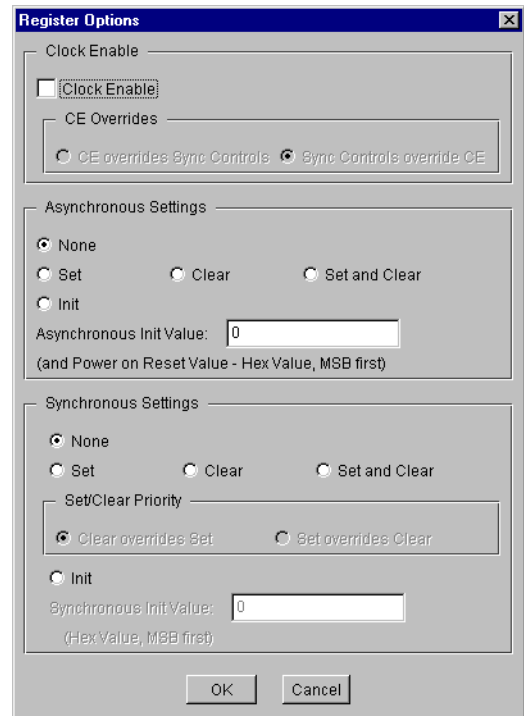

Figure 2: Binary Decoder Register Options Parameterization Screen
- Register Options:** This button is only enabled when a registered output has been requested via the **Output Options**. Clicking on this button brings up the Register Options parameterization screen (see Figure 2).
The Register Options parameterization screen for this module is shown in Figure 2. The parameters are as follows: